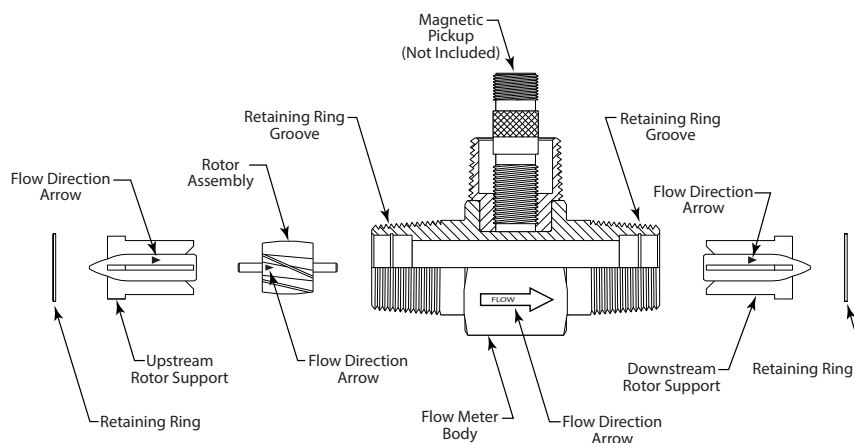
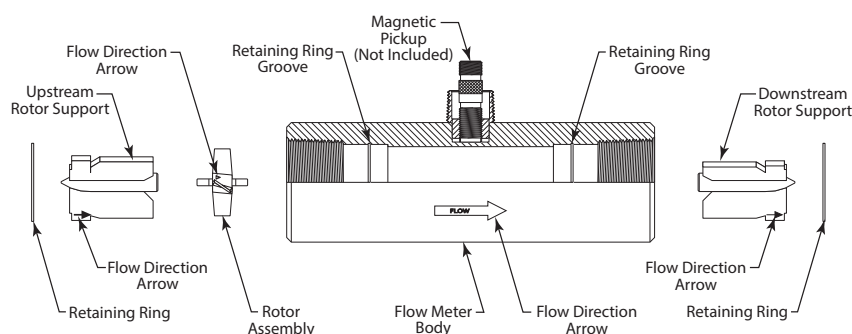
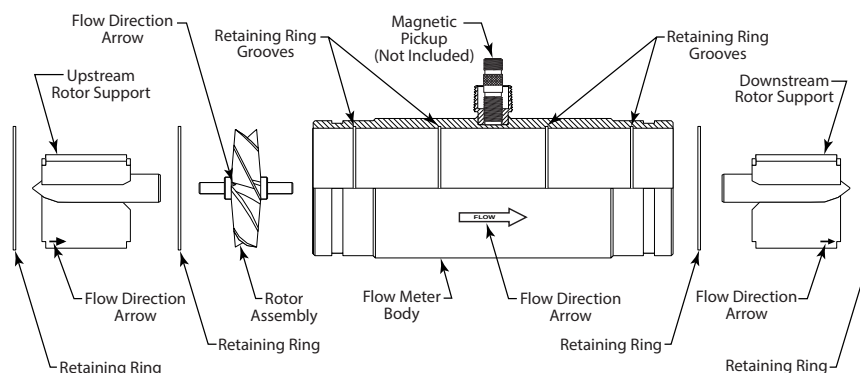

Figure 7: Component positions for B110C-375...B111C-115 and B111C-121
Figure 8: Component positions for B111C-120 and B111C-130
Figure 9: Component positions for B111C-140 and B111C-200
1. Refer to Figure 7, Figure 8 and Figure 9 for relative positions of repair kit components.
**NOTE:** 4 in. and larger meters have two retaining rings (one on either side of the rotor) that require removal before the rotor can be removed (see Figure 9).
Before reassembly, note that an arrow is cast or engraved on each component. The arrow indicates the primary flow direction. When reassembled, the arrowheads must point in the direction of the fluid flow. The arrows must also be oriented in the up position on both rotor supports. The magnetic pickup side of the body signifies the up position. Performance of repair kit calibration is in the up position. Reinstallation of the repair kit in the up position ensures continuation of accurate measurements. Figure 7, Figure 8, and Figure 9 show the proper alignment and orientation of the repair kits.
**NOTE:** 4 in. and larger meters have a retaining ring at both ends of the rotor (see Figure 9).